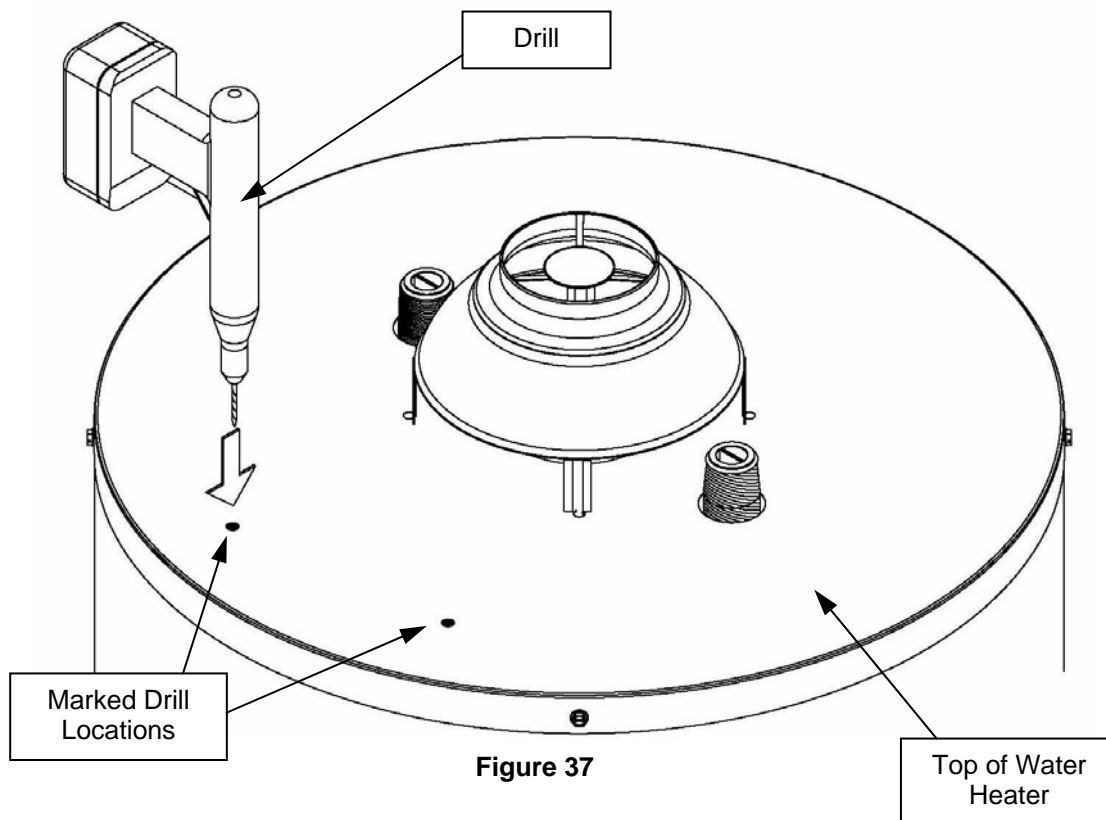

Figure 37
Step 10: Using a 1/8" drill bit and drill, drill the (2) screw holes that were marked in Step 8. This is shown in Figure 37.